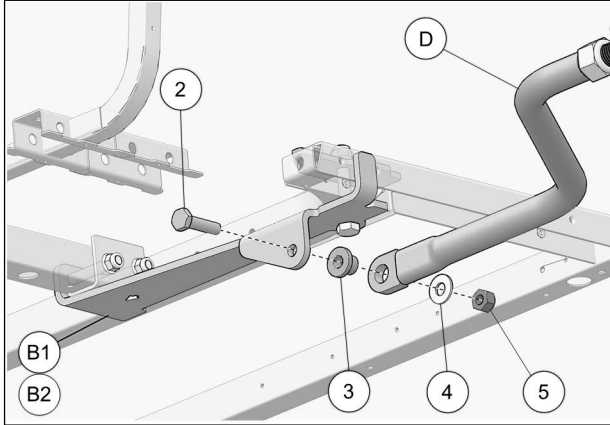

Fig. 14
12. Attach the rear suspension stabilizing rod (**D**) to anchor plate (**B1-B2**) using the bolt (**2**), bushing (**3**), washer (**4**) and nut (**5**). Torque to 50 Nm [37 lb•ft]. See Fig. 14